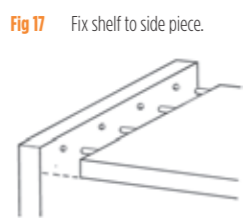

Fig 17 Fix shelf to side piece.
- When all dowel holes are ready, squeeze a little PVA glue into each hole in the side pieces and shelves, insert your dowel into the holes in the ends of each shelf, bring the components together and clamp (see Fig 17). You may need assistance with this step.